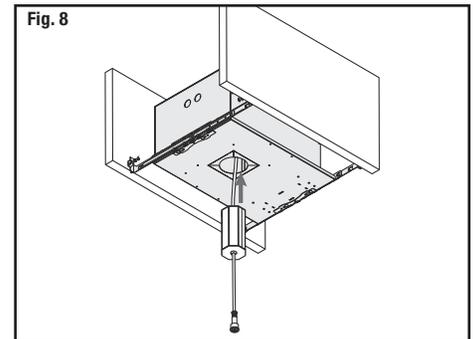

Fig. 8
7. Place fully connected driver flat inside IC box (Fig 8).